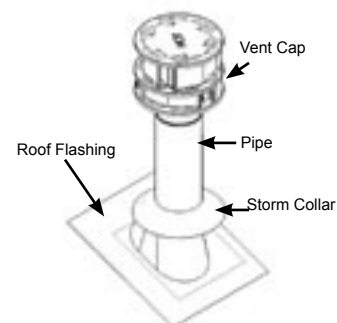

Figure 14
10. Seal all nail heads with high-temperature waterproof sealant. To finish, apply high-temperature waterproof sealant where the Storm Collar will meet the vent and Roof Flashing; slide Storm Collar down until it sets on the Roof Flashing, tighten the bolt on the Storm Collar, put the Vent Cap on and push to lock. See Figure 14.
13. Seal all nail heads with high-temperature waterproof sealant. To finish, apply high-temperature waterproof sealant where the Storm Collar will meet the Vent and Flashing; slide Storm Collar down until it sets on the Flashing, put the Vent Cap on and push to lock. See Figure 14 (page 16).